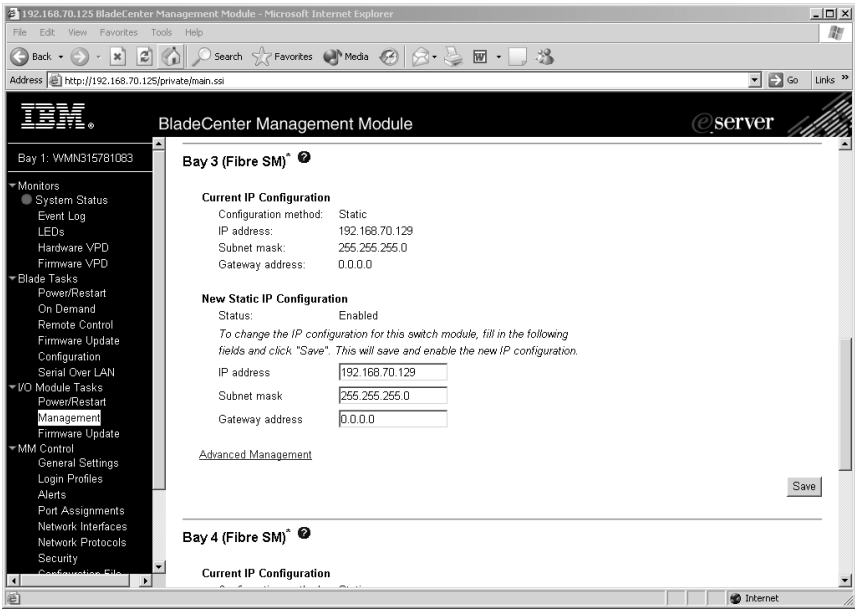

Figure 6. I/O Module Management window showing I/O-module 3 example
- Click the link for either I/O-Module 3 or I/O-Module 4. A window similar to the one in Figure 6 opens.